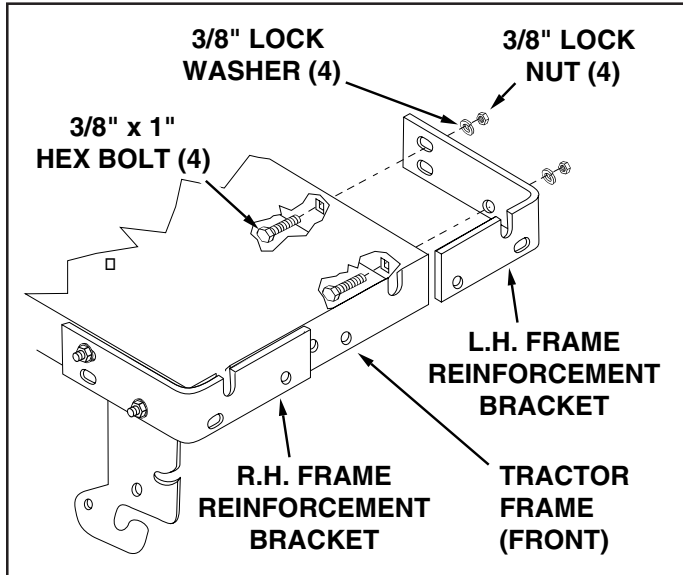

FIGURE 5 (Right hand side view)
- Attach R.H. and L.H. frame reinforcement brackets to front of tractor frame using four 3/8" x 1" hex bolts, four 3/8" lock washers and four 3/8" lock nuts. **Do not tighten.** See figure 5.